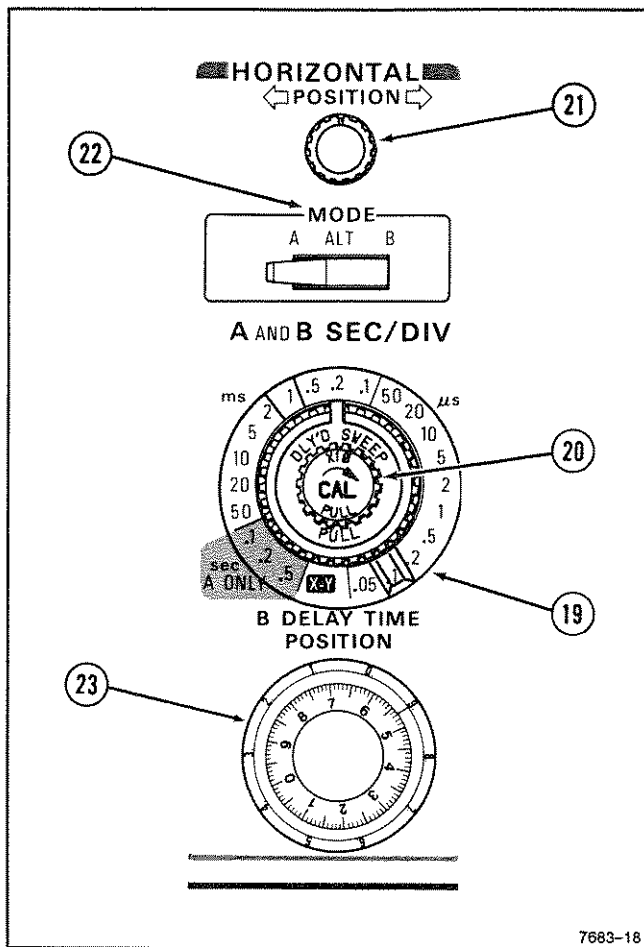

Figure 2-5. Horizontal controls and indicator.
Refer to Figure 2-5 for location of items 19 through 25.
⑲ **A and B SEC/DIV Switches**—Used to select the sweep speeds for the A and B Sweep generators in a 1-2-5 sequence. To obtain calibrated sweep speeds, the A and B SEC/DIV Variable control must be in the calibrated detent (fully clockwise).